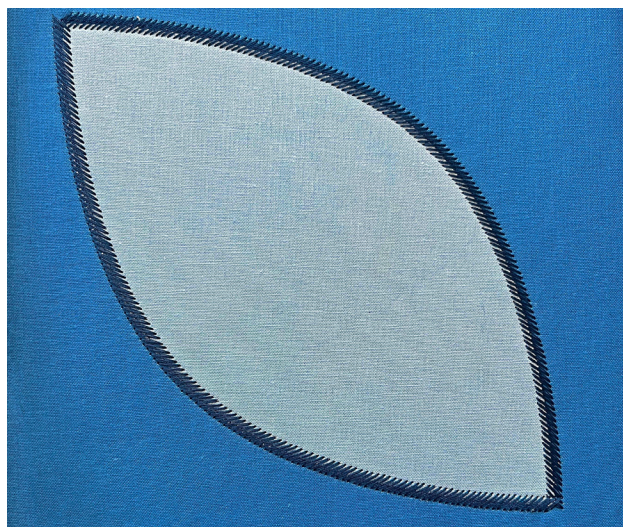

Fig. 12
4. **Final Appliqué Stitch:** the cover stitch. This is a more decorative stitch (such as a satin, blanket, or feather stitch) to cover the tack-down lines and raw edges of your appliqué (Fig. 12).